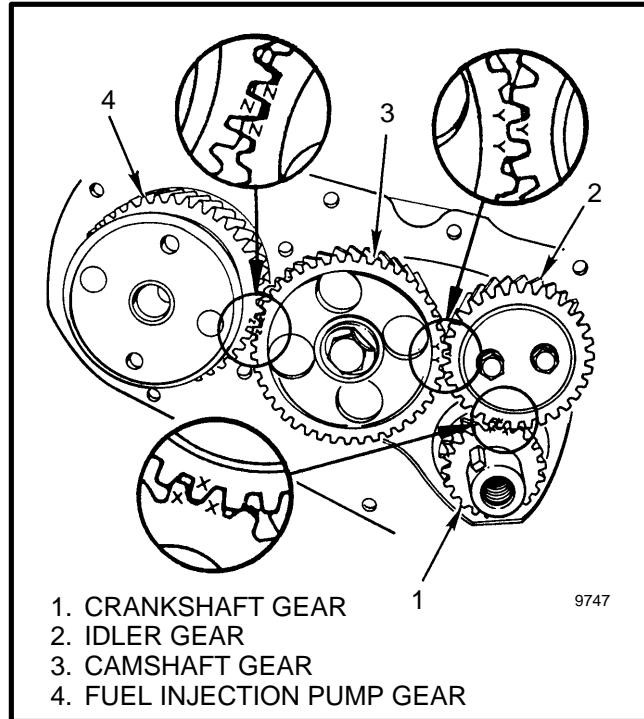

FIGURE 9. TIMING GEARS, ALIGNMENT
1. See FIGURE 9. Align the marks **X** and **Y** on the crankshaft gear (1), idler gear (2), and camshaft gear (3). Make sure that mark **ZZ** on the camshaft gear (3) is in the correct position for the installation of the fuel injection pump.
2. Put a thin coat of liquid sealant on both surfaces of the gasket that is installed between the fuel injection pump and the timing gear case. Install the fuel injection pump in the timing gear case. Make sure that the mark **Z** on the gear for the fuel injection pump is aligned with the mark **ZZ** on the camshaft gear as shown in FIGURE 9.